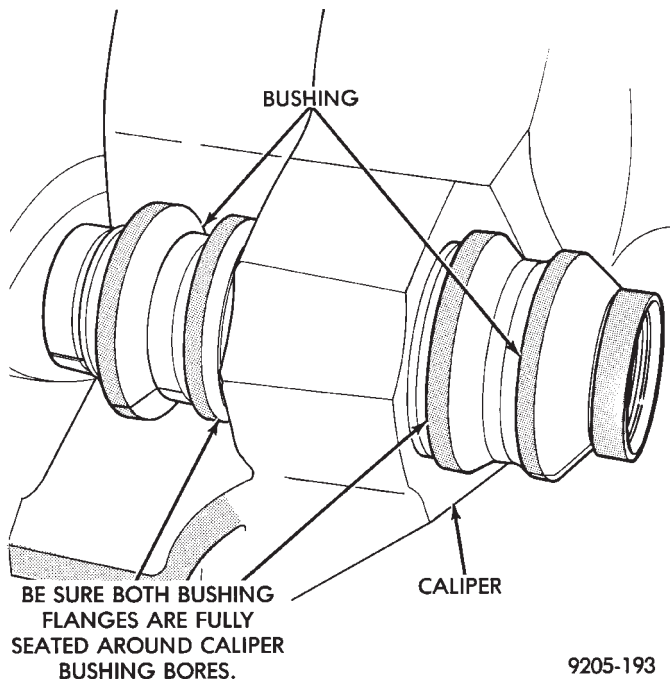

Fig. 168 Bushing Correctly Installed In Caliper
(3) Unfold the bushing using your fingers or a wooden dowel until the bushing is fully seated into the caliper housing. Flanges should be seated evenly on both sides of the bushing hole (Fig. 168).